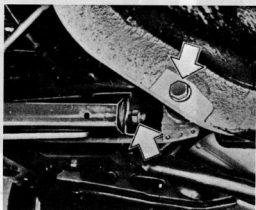

Fig. 11.12. Rear crossmember brace attachment points (Sec. 11)
- 2 First remove the nut attaching the lower suspension arm to the brace bolt, and then the brace rear mounting bolt, (see Fig. 11.12).